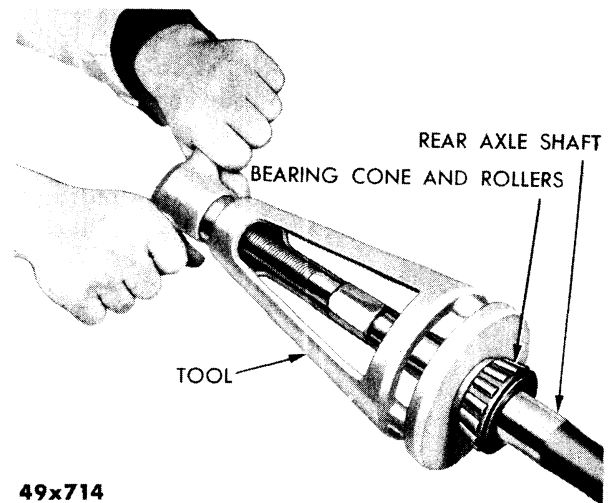

Fig. 11—Installing Axle Shaft Bearing (Tool C-158)
- (4) To install the axle shaft, first replace the bearing on axle shaft with special Tool C-158 (Fig. 11) and moderately lubricate axle bearings with hypoid lubricant. Carefully insert the axle shaft in the housing, making sure the shaft and differential side gear splines align.